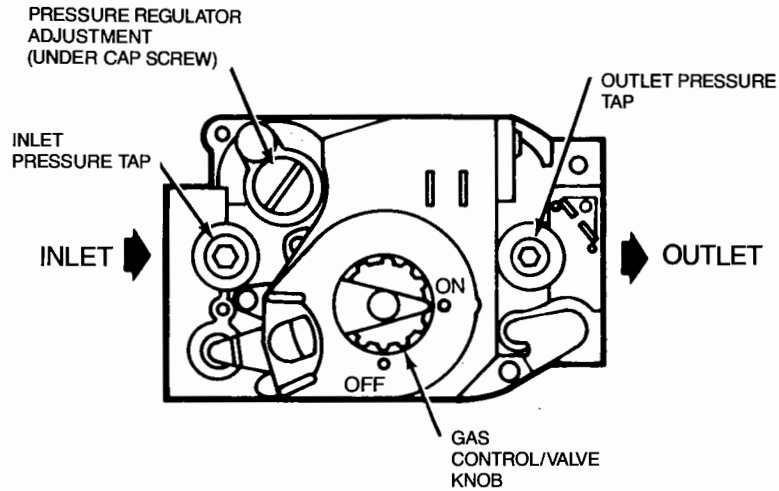
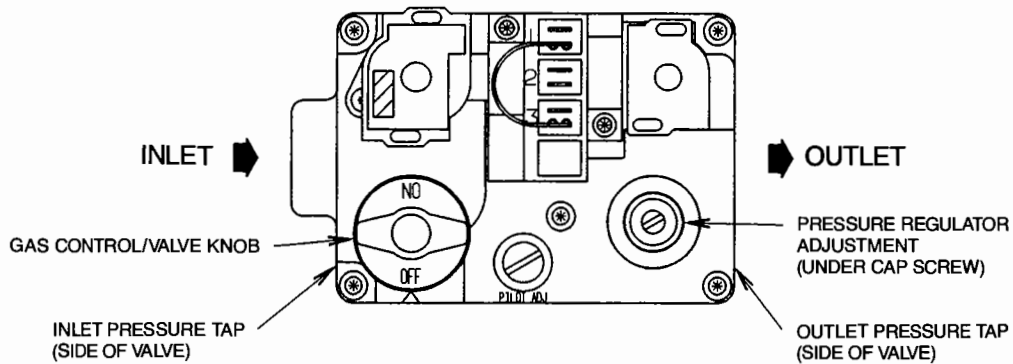
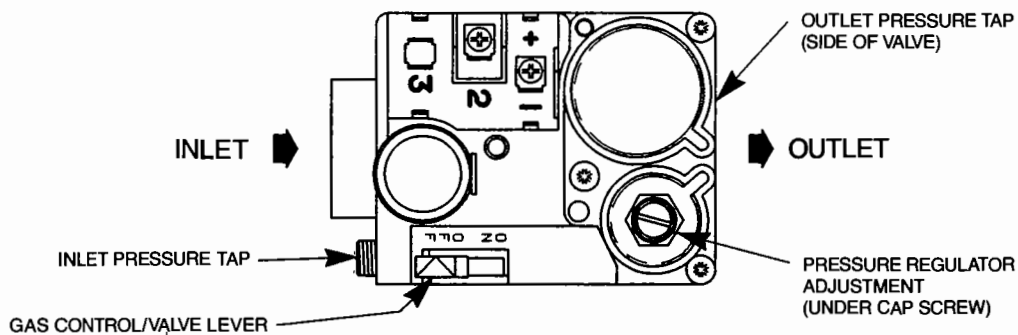

**FIG. 10A — HONEYWELL
**FIG. 10B — WHITE RODGERS
**FIG. 10C — ROBERTSHAW (GRAYSON)
6. Turn the gas control knob clockwise  to the "Off" position for either the White Rodgers 36-E gas valve (Fig. 10B) or the Honeywell VR-8205 gas valve (Fig. 10A). For the Robertshaw 7200 gas valve push in and slide the lever to the "Off" position (Fig. 10C). Do not force.
7. Wait five (5) minutes to clear out any gas. Then smell for gas, including near the floor.
8. If you smell gas following the 5 minute waiting period in Step 7, follow the instructions on the cover of this manual. If you do not smell gas, then turn the gas control knob counterclockwise  to the "On" position for either the White Rodgers 36-E gas valve (Fig. 10B) or the Honeywell VR-8205 gas valve (Fig. 10A). For the Robertshaw 7200 gas valve push in and slide the lever to the "On" position (Fig. 10C). Do not force.
1. Connect a water manometer or adequate gauge to the "inlet gas pressure" tap of the gas valve. (See Fig. 10A, 10B, 10C.)
A tapped opening is provided in the gas valve to facilitate measurement of the manifold pressure. See the "Outlet Pressure Tap" in Fig. 10A, 10B and 10C. A "U Tube" man-
3. Turn the gas control knob clockwise  to the "Off" position for either the White Rodgers 36-E gas valve (Fig. 10B) or the Honeywell VR-8205 gas valve (Fig. 10A). For the Robertshaw 7200 gas valve, push in and slide the lever to the "Off" position (Fig. 10C). Do not force.